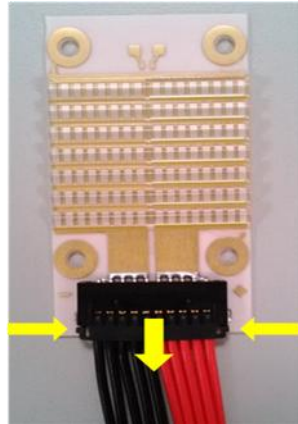
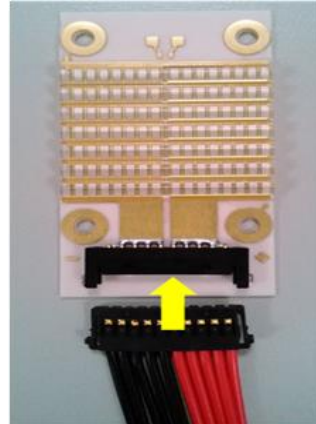

Figure 4a.
Figure 4b.
5. If user wants to disassemble connector wire, please push clamp pin of connector and pull connector back as figure 4a. Please don't pull wire directly. And if user wants to assemble connector, please push connector into the connector housing as figure 4b.